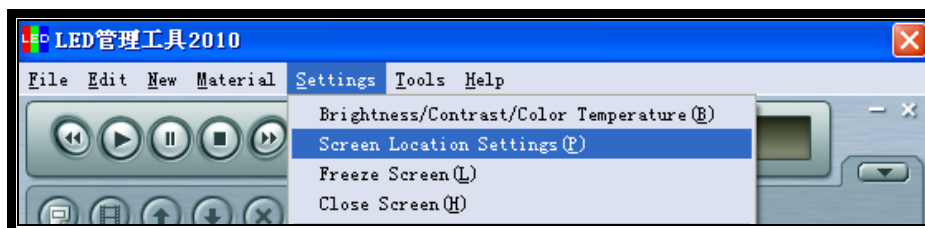

Fig.3-1
Step3: Open "LED management 2010", click "Settings" → "Screen Location Settings" as shown in fig. 3-1.